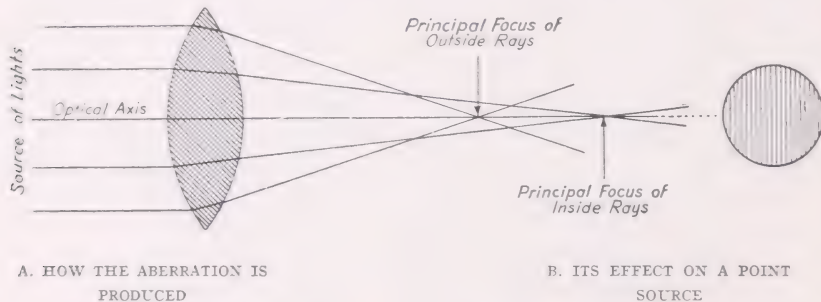

FIG. 18. THE CAUSE AND EFFECT OF SPHERICAL ABERRATION
*Spherical Aberration*. Now while all the rays of light that pass through a lens are refracted to practically the same extent, there is just enough difference in the refractive powers of different annular, (*i.e.*, ring-shaped) portions of a lens to prevent all the rays of light meeting at a single point on its optical axis. It is this difference in the refraction of a lens that produces what is called *spherical aberration*. See Fig. 18. Spherical